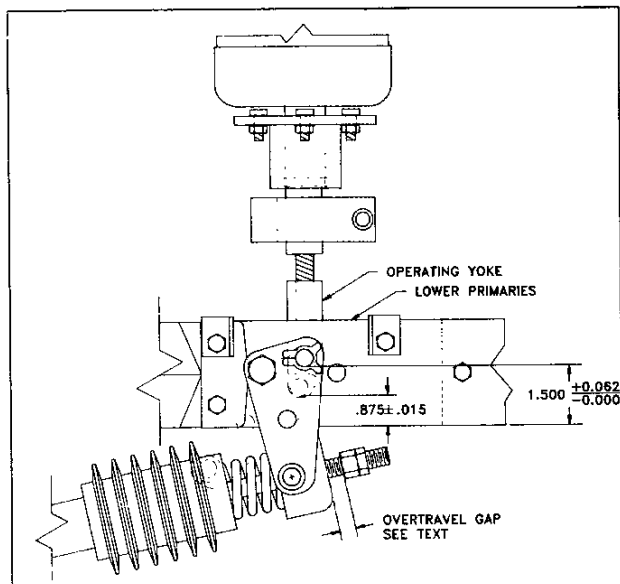

Figure 2. Operating Yoke Adjustments
operating yoke should be 1.500" + 0.06" - 0.000" above the bottom of the lower main primary disconnect bars. See Figure 2.
- d. As explained in the description of the mechanism operation, when the breaker is closed a gap will exist between the contact loading spring yoke and the nut on the push rod stud, Figure 2. With a new vacuum interrupter, this gap will be about 1/2 inch. As the contacts erode, the gap will reduce to about 1/8 inch.
- Unscrew and remove the operating yoke at the lower end of the vacuum interrupter (Figure 2).